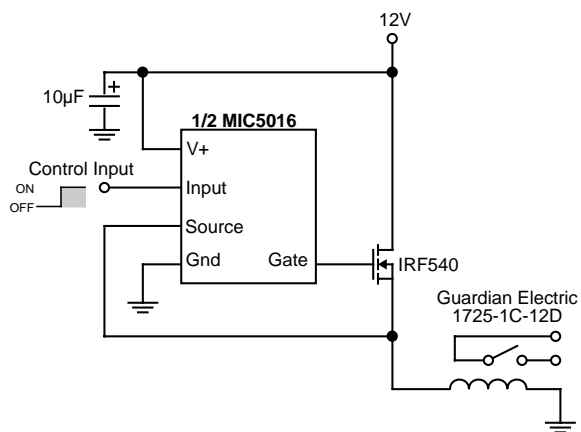

Figure 9: Relay Driver
**Relay Driver** (Figure 9) Some power relay applications require the use of a separate switch or drive control, such as in the case of microprocessor control of banks of relays where a logic level control signal is used, or for drive of relays with high power requirements. The combination of an MIC5016/5017 and a power FET also provides an elegant solution to power relay drive.